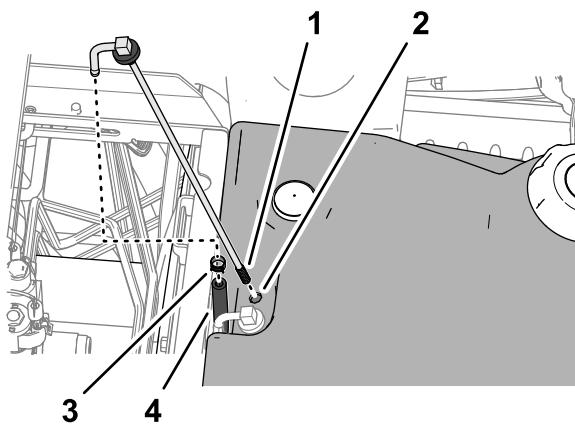

Figure 121
3. Remove the clamp that secures the hose to the fuel pick-up tube (Figure 121).
5. Clean the screen at the end of the fuel pick-up tube (Figure 121).